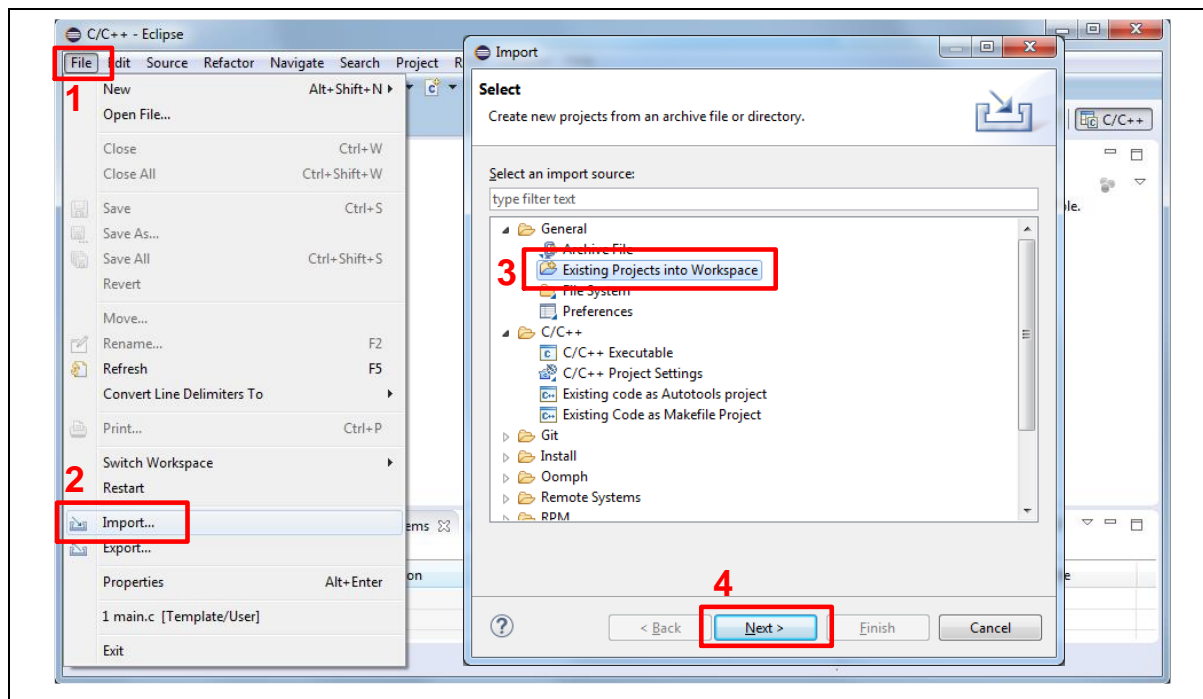
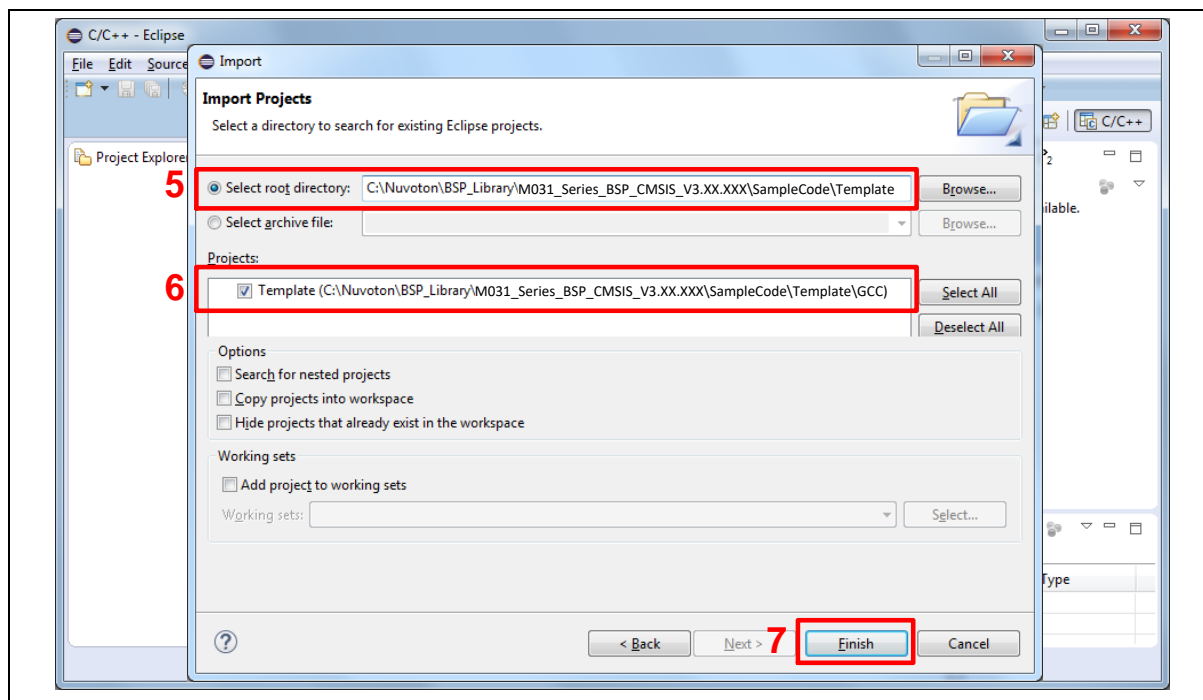

Figure 4-19 Import the Project in NuEclipse
Figure 4-20 Import Projects Windows
2. Import the “Template” project by following the steps presented in Figure 4-19 and Figure 4-20.